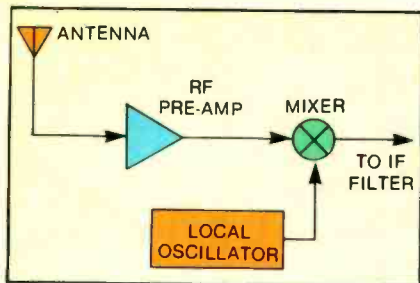

Figure 3. Basic superheterodyne receiver block diagram.
A basic superheterodyne receiver block diagram is shown in Figure 3. The local oscillator (LO) generates a carrier, which is mixed with the signal received at the antenna. This process generates a new signal at the intermediate frequency (IF). The local oscillator is actually a low-powered transmitter-type circuit, with an output wired to the mixer circuit. If the LO signal is coupled to and radiated by the receiver antenna, interference may be produced.